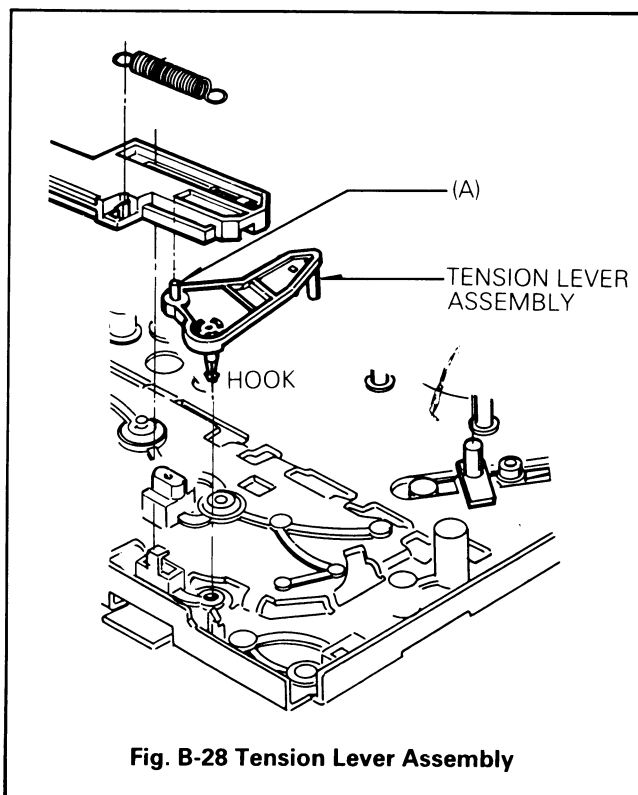

Fig. B-28 Tension Lever Assembly
- 1) When reassembling, the groove of Lower part of Function Plate should be aligned with the shaft of Tension Lever Assembly(Fig. B-28).
28. Tension Lever Assembly(Fig. B-28)